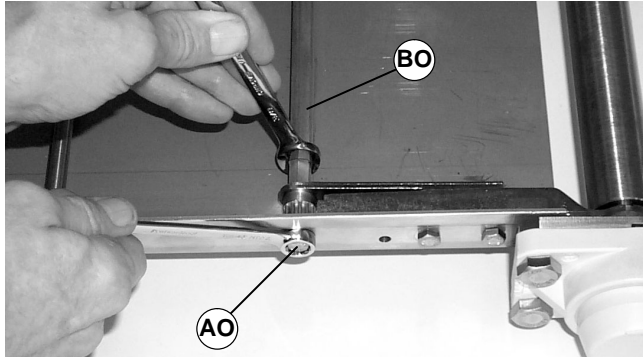
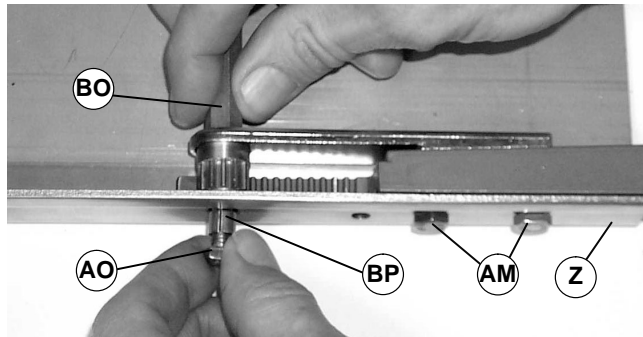
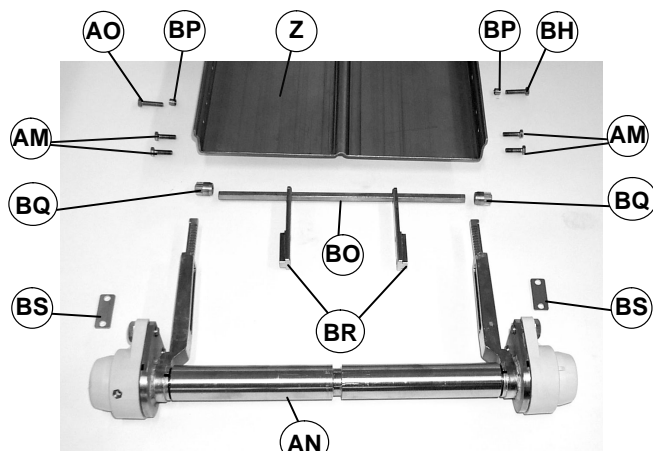

Figure 39
Figure 40
Figure 41
1. While holding hex pinion (BO of Figure 39) with a 3/8" open-end wrench, loosen M6 hex head cap screw (AO).
2. Remove M6 hex head cap screw (AO of Figure 40) and sleeve (BP) from conveyor (Z) and hex pinion (BO).
3. Repeat steps 1 and 2 for screw (BH of Figure 41) on opposite side of conveyor.
4. Remove two M6 hex head cap screws (AM) from each side of conveyor.
5. Remove two pinion ends (BQ), clamp blocks (BR), hex pinion (BO), two spacers (BS) and tail assembly (AN) from conveyor (Z).
IMPORTANT: Loosely install a spacer (BS of Figures 41 and 47) on each side of tail assembly (AN) prior to installing tail assembly on conveyor.
4. Loosely install two pinion ends (BQ of Figures 41 and 48), hex pinion (BO) and clamp blocks (BR) on tail assembly (AN) and conveyor (Z) with four M6x20mm hex head cap screws (AM of Figure 40), two sleeves (BP) and two M6x25mm hex head cap screws (AO).
5. While holding hex pinion (BO of Figure 39) with a 3/8" open-end wrench, tighten two screws (AO of Figure 39 and BH of Figure 41) to 33 in-lb (3.7 Nm).
6. Tighten four screws (AM of Figure 40) to 33 in-lb (3.7 Nm).